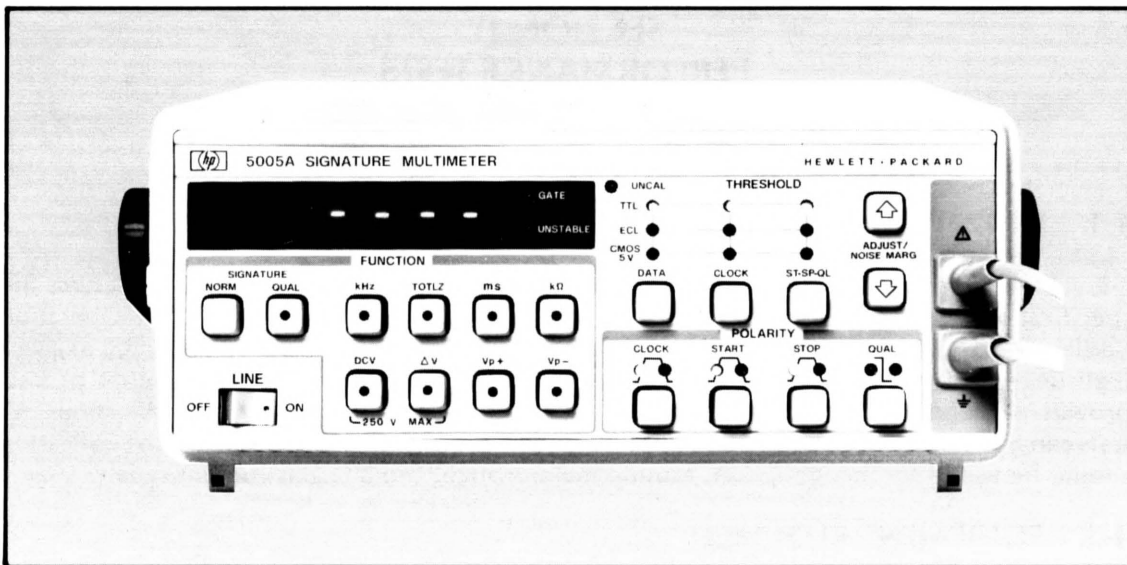

Figure 4-1. Self-Check
- b. Set LINE ON-OFF switch to ON and verify the Self-Check routine as follows: Upon applying power, all front panel LEDs, except for GATE and UNSTABLE, should light momentarily. GATE and UNSTABLE should randomly flash on and off, and the 5005A display should be “-888888”. After approximately three seconds, verify that four lighted bars (the center segments of the four rightmost display LEDs) are displayed and the NORM, CLOCK, START, STOP, and all TTL level LED indicators are lighted. Verify that all other LEDs are unlighted. See *Figure 4-1*.